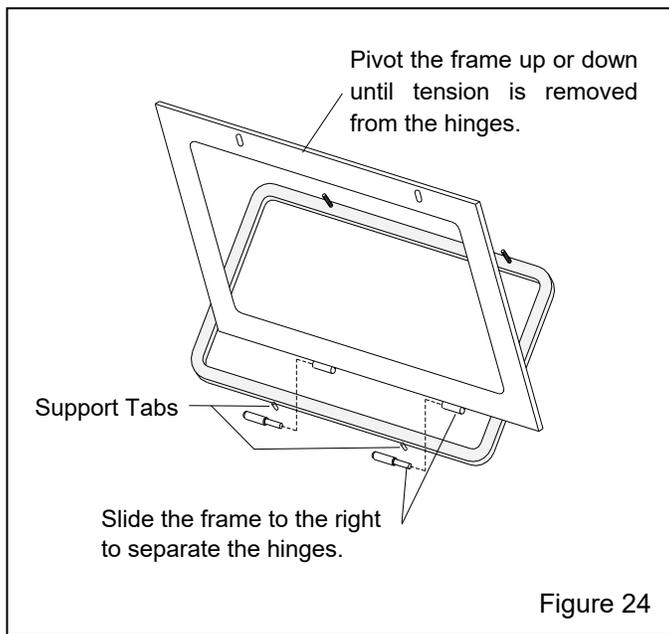

Figure 24
## 7.6 Window-Frame Removal – Figure 24
**7.6.4** To remove, slide the frame to the right. The hinges separate, as shown in Figure 24.